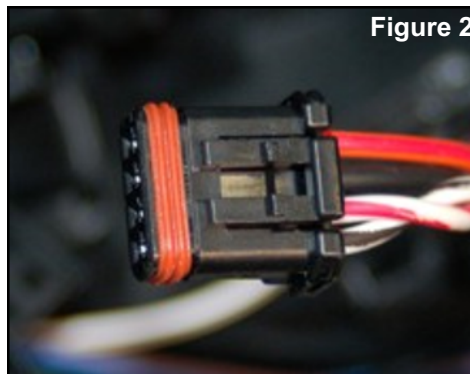

Figure 2
4. Remove the outer fairing, locate then disconnect the very small (black) 4-position male and female connectors found under the radio. (Figure 2)